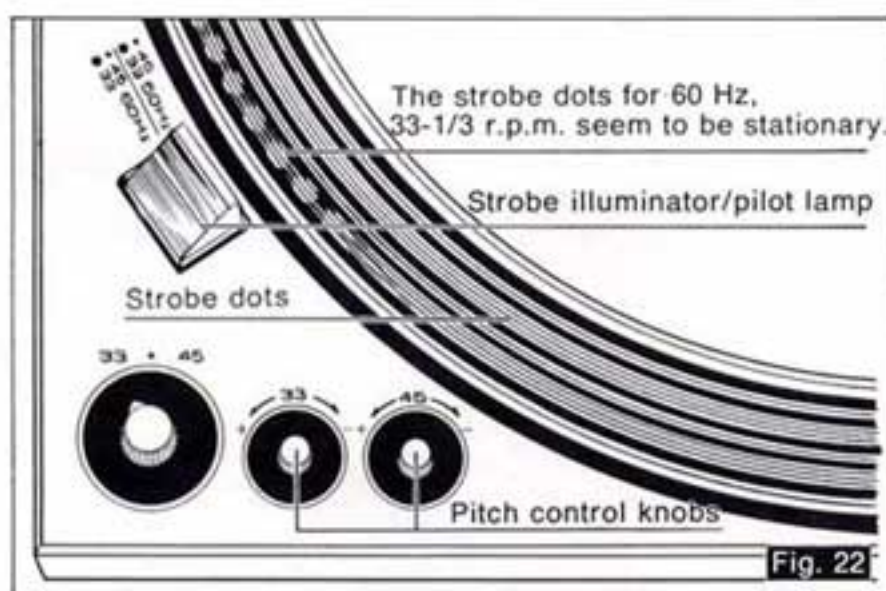

Fig. 22
1. Set the speed selector to the number of revolutions to be adjusted. (See Fig. 22)